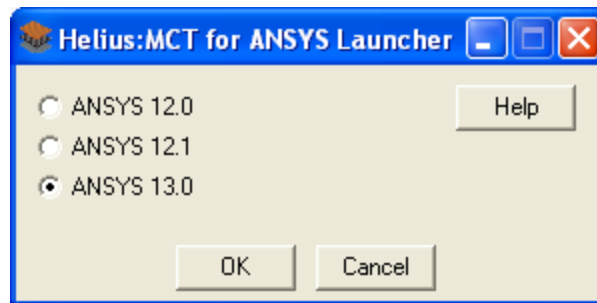

Figure 2. Ansys-MCT-Launcher interface.
1. Open ANSYS Mechanical APDL using the **ansys-MCT-launcher** tool (Figure 2).